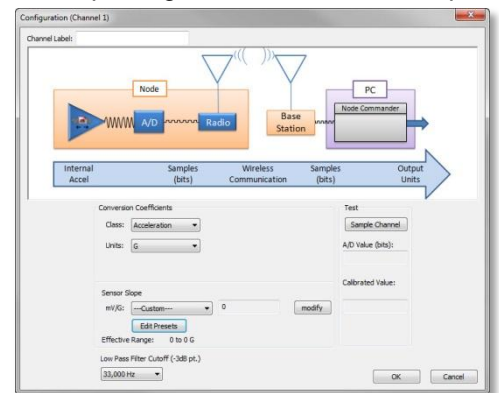

Figure 7: Channel Configuration window
6. Click the ... (ellipsis) button in the Configure column for Channel 1 and the Channel Configuration window appears (Figure 7).